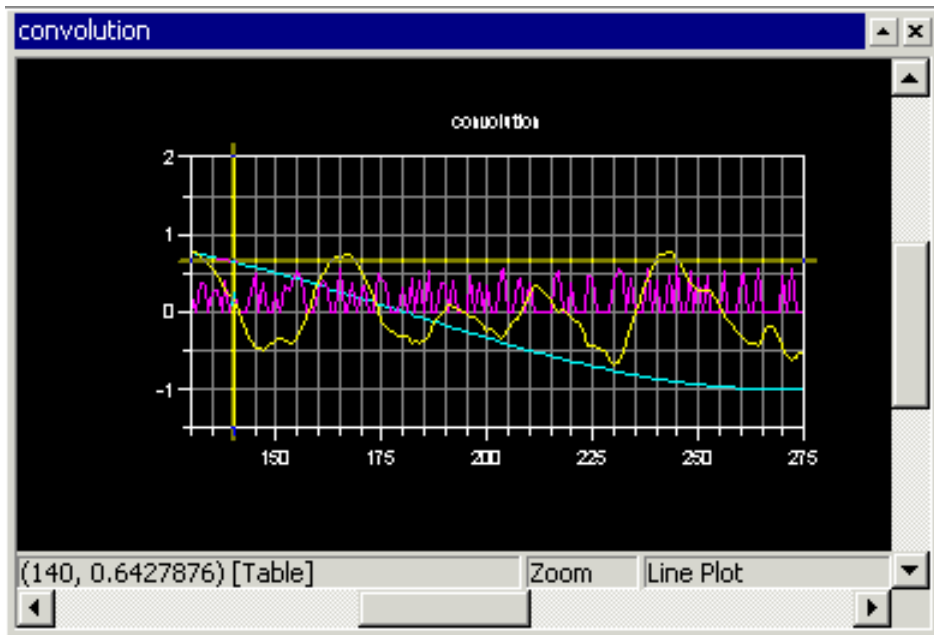

Figure 2-31. Plot Window: Using the Data Cursor Feature
5. Right-click inside the plot window and choose **Data Cursor** from the pop-up menu. Then move through the individual data points in the current data set by pressing and holding the Left (←) and Right (→) arrow keys on the keyboard. The value of the current data point appears in the lower-left corner of the plot window, as shown in Figure 2-31.